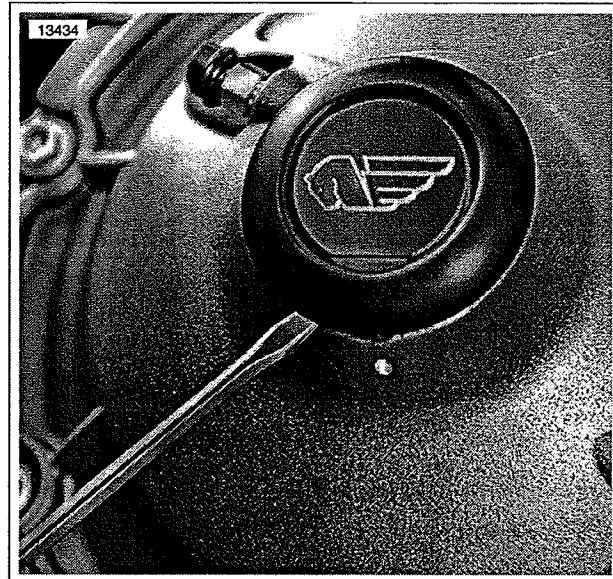

Figure 1. Secondary Clutch Actuator Cover Plug
5. See Figure 1. Pry out the plastic plug from the secondary clutch actuator cover.